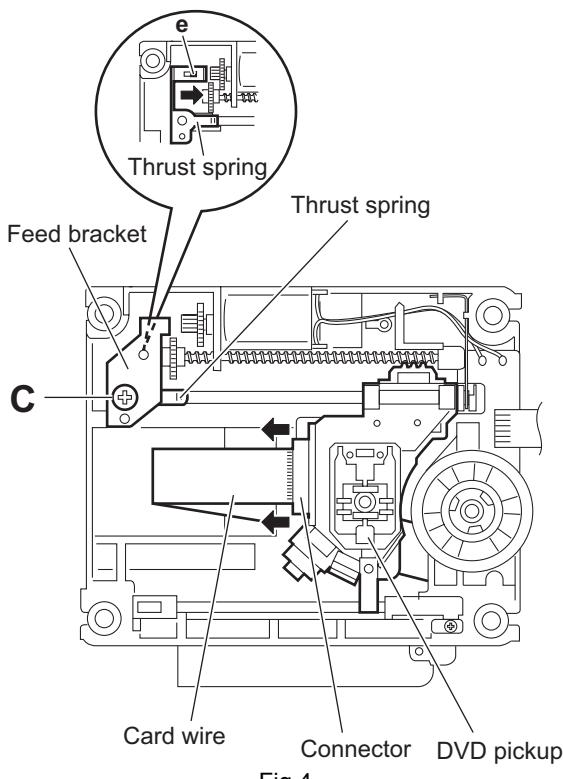

Fig.4
- (2) Release the lock of the connector on the DVD pickup in the direction of the arrow and disconnect the card wire. (See Fig.4.)
- (3) Remove the screw **C** and remove the feed bracket from the sections **d**. (See Fig.4.)
- (4) Release the claw **e** of the thrust spring in the direction of the arrow and remove the thrust spring. (See Fig.4.)
- (3) Attach the feed bracket and thrust spring. (See Fig.4.)
(See Figs.4,8 and 9)
- (1) From the top side of the traverse mechanism assembly, remove the screw **C** and remove the feed bracket from the sections **d**. (See Fig.4.)
- (2) Release the claw **e** of the thrust spring in the direction of the arrow and remove the thrust spring. (See Fig.4.)